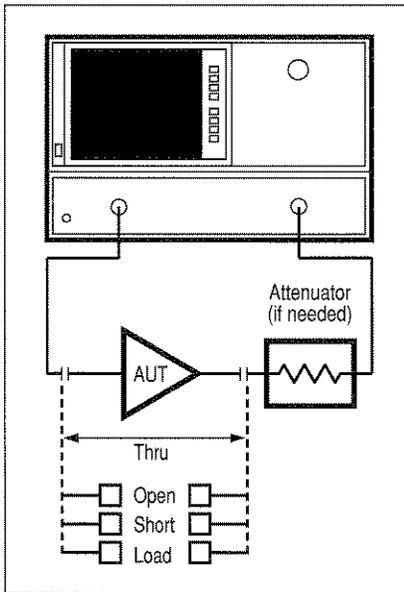

Figure 2. Basic setup for amplifier measurement using the HP 8720C network analyzer.
Measurements in the linear operating region of the amplifier can be made with the HP 8720C family of network analyzers by using the basic set-up shown in Figure 2. Care must be taken when setting the input power to the AUT so that it is operating within its linear region.
1. Configure the system as shown in Figure 2. Return the HP 8720C to a known state of operation.